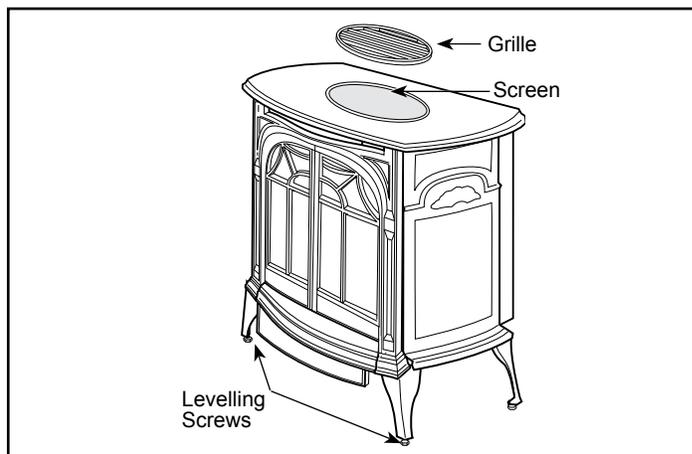

Figure 13 - Install the Top Plate and Grille.
3. Lay the screen and top grille in place. (Figure 13)